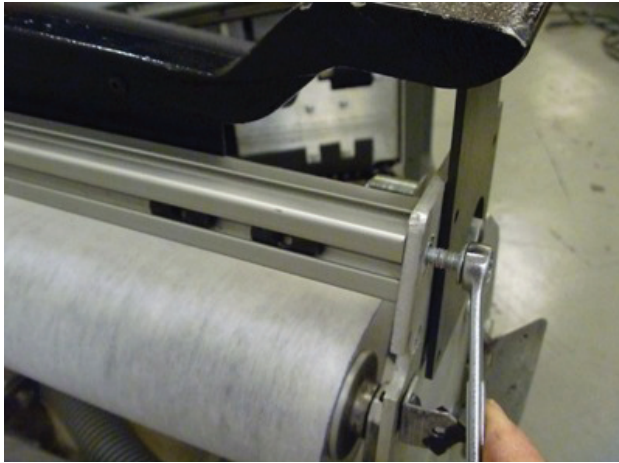

Figure 10
10. Reattach the front support rail to the 7pin side frame of the machine. Refer to *Figure 10*.